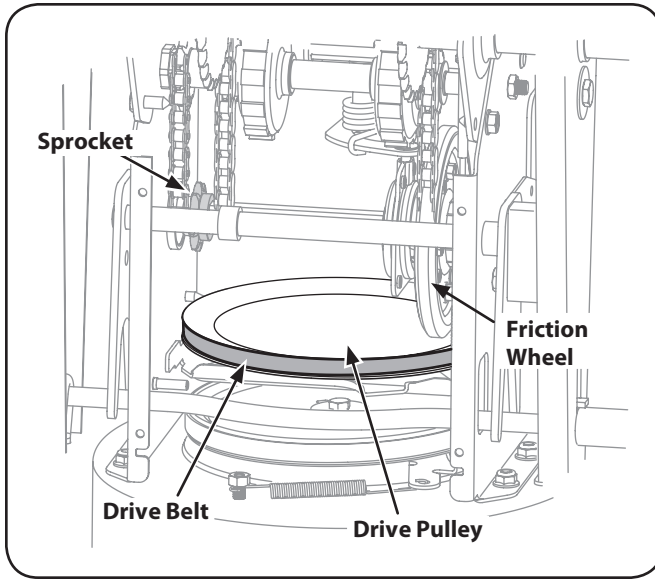

Figure 7-7
7. Slip the drive belt off the pulley and between friction wheel and drive pulley. See Figure 7-7.
NOTE: Make sure to install the gear shaft through the sprocket shown in Figure 7-7. If the sprocket fell from the snow thrower while removing the hex shaft, place the sprocket on the chain and hex shaft. Position the hex hub of the sprocket toward the friction wheel when sliding the sprocket onto the shaft. See Figure 7-7.